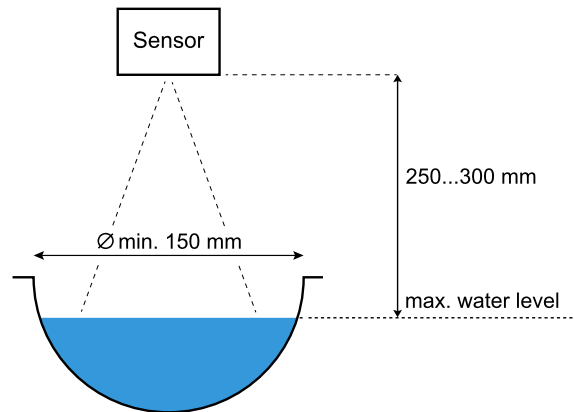

Figure 9 Installation of the SQ-R above half-pipes
- The distance between the bottom of the pipe and the sensor should be the max. water level plus 250 ... 300 mm (see Figure 9).